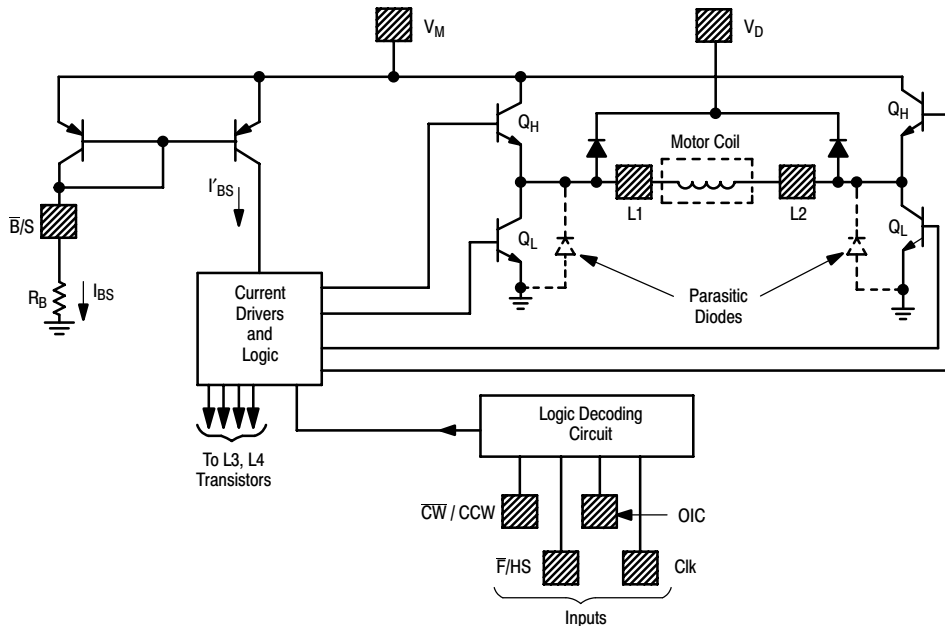
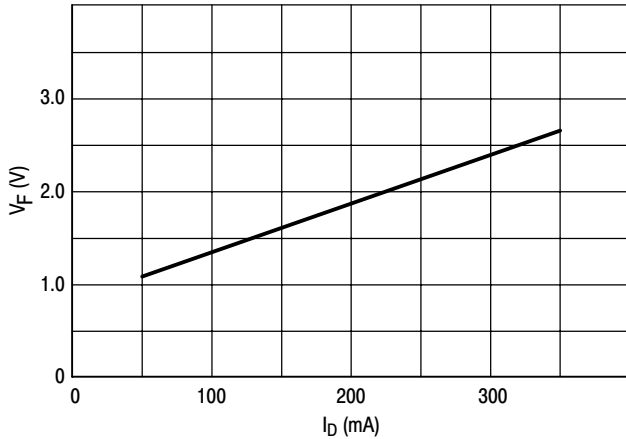
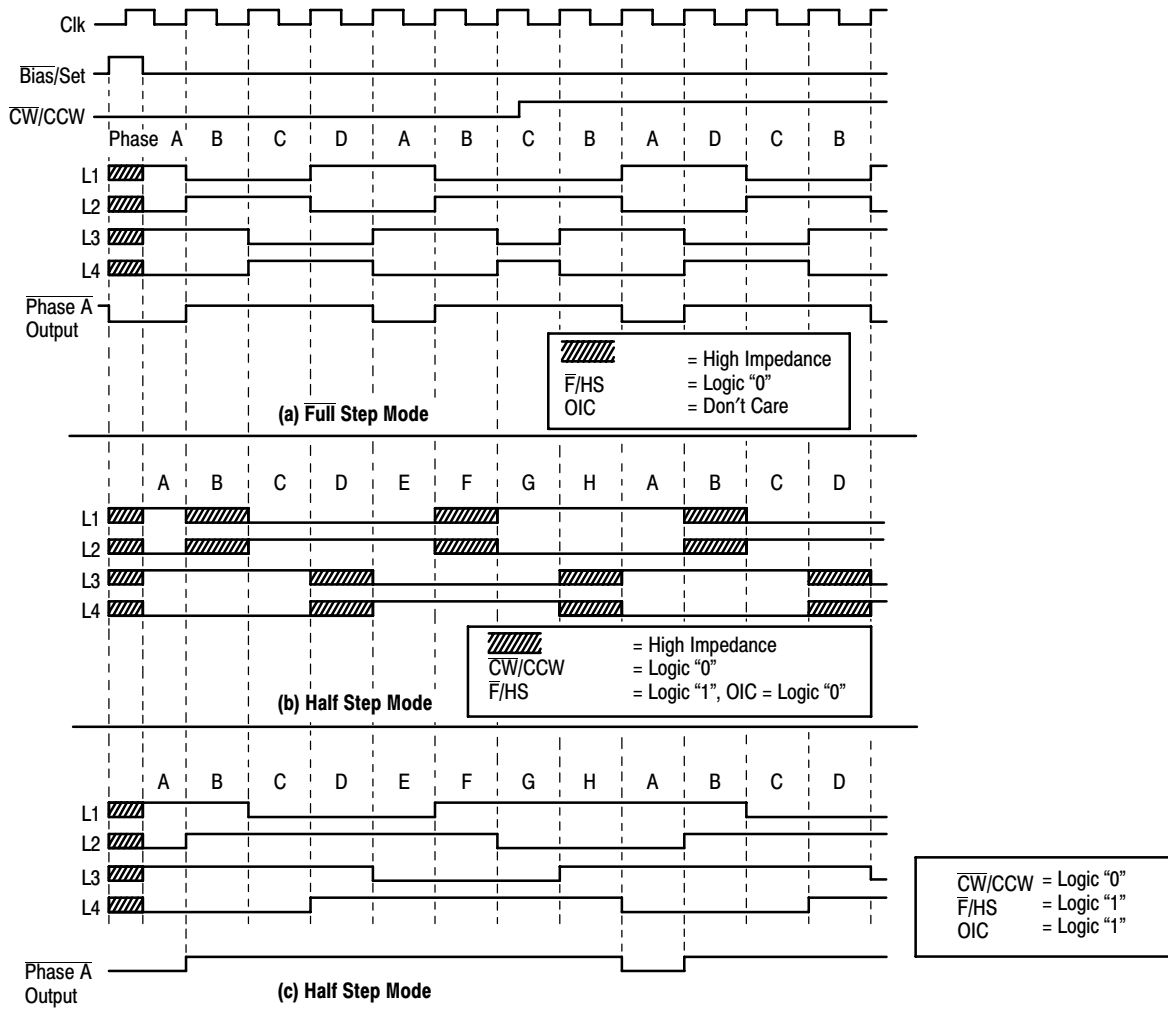
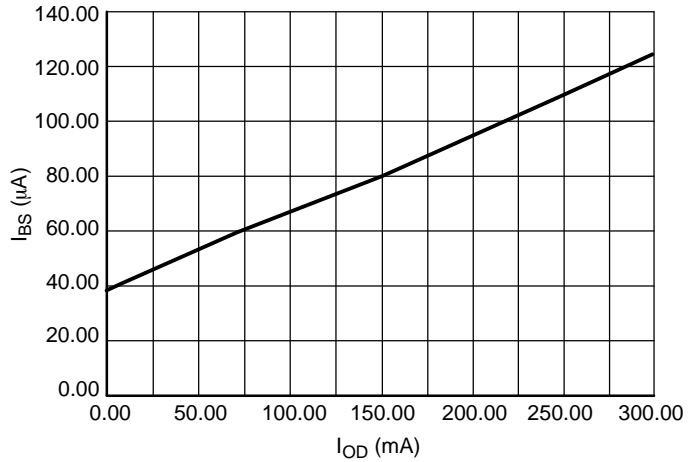

Figure 5. Output Stages
Figure 6. Clamp Diode Characteristics
Figure 7. Output Sequence
Figure 11. Bias/Set Current – Output Drive Current
| 9 | Full/Half Step | \bar{F}/HS | When low (Logic "0"), each clock input pulse will cause the motor to rotate one full step. When high, each clock pulse will cause the motor to rotate one-half step. See Figure 7 for sequence. |
| 10 | Clockwise/Counterclockwise | $\bar{C}W/CCW$ | This input allows reversing the rotation of the motor. See Figure 7 for sequence. |
| 8 | Output Impedance Control | OIC | This input is relevant only in the half step mode (Pin 9 > 2.0 V). When low (Logic "0"), the two driver outputs of the non-energized coil will be in a high impedance condition. When high the same driver outputs will be at a low impedance referenced to V_M . See Figure 7. |
The outputs (L1–L4) are high current outputs (see Figure 5), which when connected to a two-phase motor, provide two full-bridge configurations (L3 and L4 are not shown in Figure 5). The polarities applied to the motor coils depend on which transistor (Q_H or Q_L) of each output is on, which in turn depends on the inputs and the decoding circuitry.
are to be in a high impedance state, both transistors (Q_H and Q_L of Figure 5) of each output are off.
This pin allows for provision of a current path for the motor coil current during switching, in order to suppress back-EMF voltage spikes. V_D is normally connected to V_M (Pin 16) through a diode (zener or regular), a resistor, or directly. The peaks instantaneous voltage at the outputs must not exceed V_M by more than 6.0 V. The voltage drop across the internal clamping diodes must be included in this portion of the design (see Figure 6). Note the parasitic diodes (Figure 5) across each Q_L of each output provide for a complete circuit path for the switched current.
When this input is at a Logic “0” (< 0.8 V), the outputs change a full step with each clock cycle, with the sequence direction depending on the \overline{CW}/CCW input. There are four steps ($\overline{\text{Phase A}}$, $\overline{\text{B}}$, $\overline{\text{C}}$, $\overline{\text{D}}$) for each complete cycle of the sequencing logic. Current flows through both motor coils during each step, as shown in Figure 7.
When taken to a Logic “1” (>2.0 V), the outputs change a half step with each clock cycle, with the sequence direction depending on the \overline{CW}/CCW input. Eight steps ($\overline{\text{Phase A}}$ to $\overline{\text{H}}$) result for each complete cycle of the sequencing logic. $\overline{\text{Phase A}}$, $\overline{\text{C}}$, $\overline{\text{E}}$ and $\overline{\text{G}}$ correspond (in polarity) to $\overline{\text{Phase A}}$, $\overline{\text{B}}$, $\overline{\text{C}}$, and $\overline{\text{D}}$, respectively, of the full step sequence. $\overline{\text{Phase B}}$, $\overline{\text{D}}$, $\overline{\text{F}}$ and $\overline{\text{H}}$ provide current to one motor coil, while de-energizing the other coil. The condition of the outputs of the de-energized coil depends on the OIC input, see Figure 7 timing diagram.
The output impedance control input determines the output impedance to the de-energized coil when operating in the half-step mode. When the outputs are in $\overline{\text{Phase B}}$, $\overline{\text{D}}$, $\overline{\text{F}}$ or $\overline{\text{H}}$ (Figure 7) and this input is at a Logic “0” (<0.8 V), the two outputs to the de-energized coil are in a high impedance condition – Q_L and Q_H of both outputs (Figure 5) are off. When this input is at a Logic “1” (>2.0 V), a low impedance output is provided to the de-energized coil as both outputs have Q_H on (Q_L off). To complete the low impedance path requires connecting V_D to V_M as described elsewhere in this data sheet.
a) The maximum output sink current is determined by the base drive current supplied to the lower transistors (Q_Ls of Figure 5) of each output, which in turn, is a function of I_{BS}. The appropriate value of I_{BS} can be approximated using Figure 11.
For example, assume an application where $V_M = 12\text{ V}$, the motor requires 200 mA/coil, operating at room temperature with no heatsink on the IC. From Figure 11, I_{BS} is determined to be 95 μA .